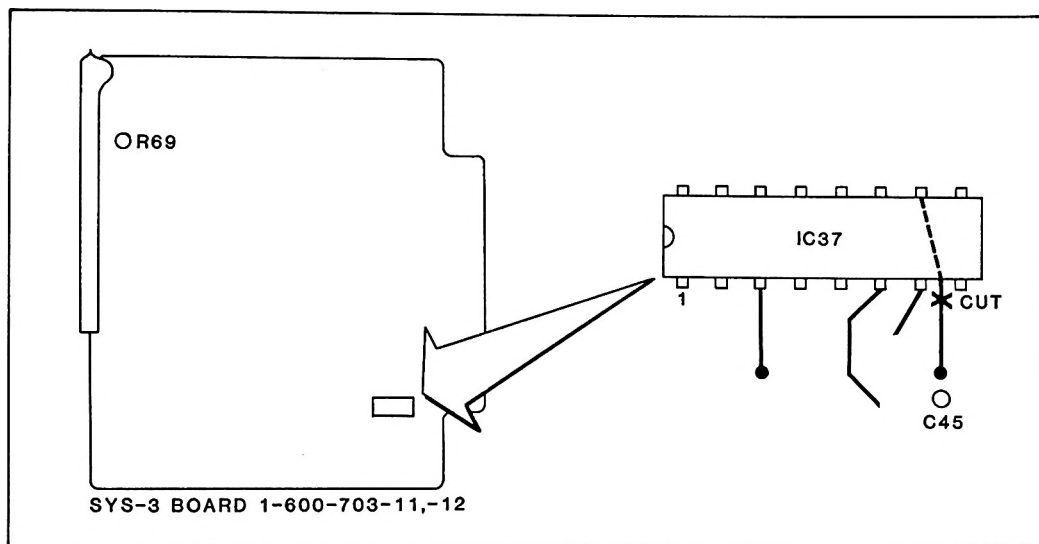

Figure 4
1. Cut trace at IC37-10. (Make cut on component side, between pins 7 and 8 as shown in Figure 4.)
3. With board extended, power up equipment and adjust R69 (Figure 4) to eliminate tape slack around scanner when switching from JOG REV to PLAY.